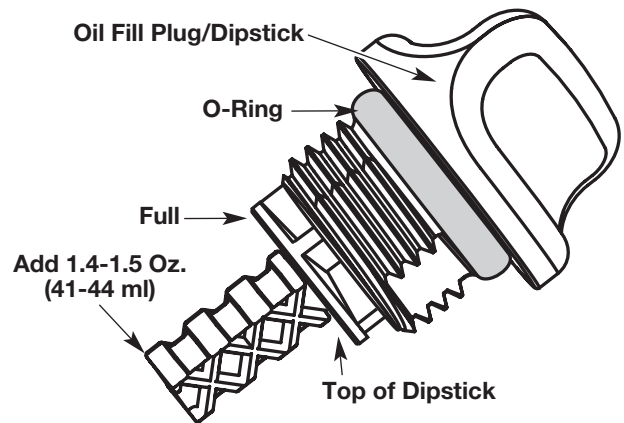

Fig. 40
5. Remove the oil fill plug/dipstick and check the oil level. Oil should be up to the top of the dipstick (Fig. 40).